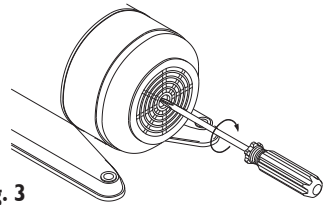

Fig. 3
3. If the pump sticks after periods of inactivity, a screw driver slot is provided on the motor shaft end to free up the pump/motor. To do so, insert a screw driver in the slot in the motor shaft as shown in Fig 3 and turn to free the rotor. If this does not remedy the problem, the unit will need dismantling.